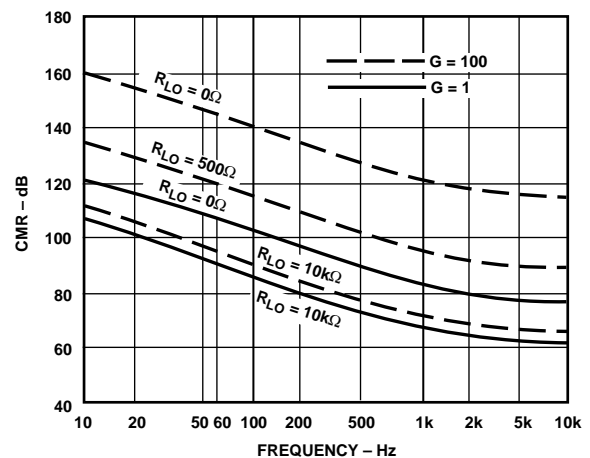

Figure 9. Common-Mode Rejection vs. Frequency
**Common-Mode Rejection:** Figure 9 shows the common-mode rejection of the AD210 versus frequency, gain and input source resistance. For maximum common-mode rejection of unwanted signals, keep the input source resistance low and carefully lay out the input, avoiding excessive stray capacitance at the input terminals.